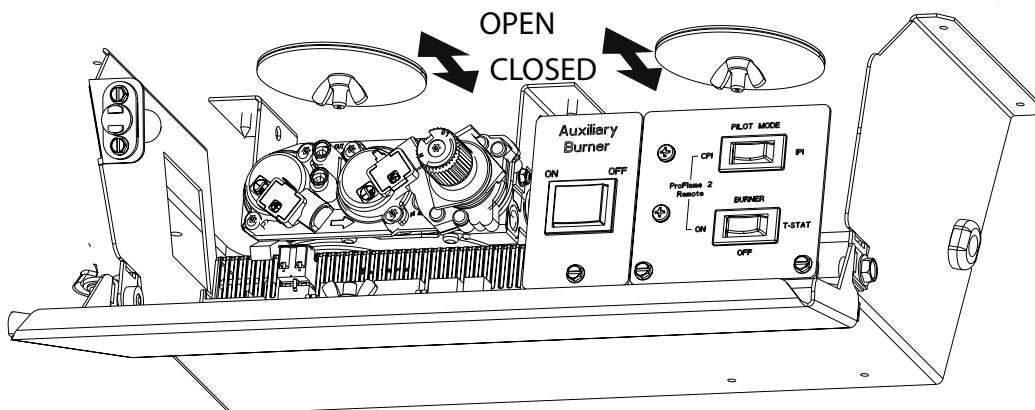

Figure 35.
15. Adjust the Air Shutters. Fig. 35